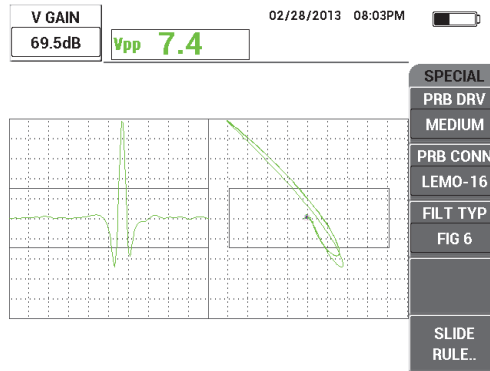

Figure 5-67 Adjusting the vertical gain
8. Press the GAIN key (**dB**) twice, and then increase the **V GAIN** until the notch signal reaches full screen height (100 % vertical) [see Figure 5-67 on page 176].